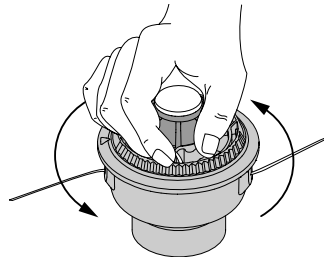

Fig. 19
8. Hold the outer spool. Wind the inner reel counterclockwise until approximately four (4) inches (102 mm) of line remain (Fig. 19).
9. If winding the line becomes difficult or if the line jams, pull the ends of the line from the spool (Fig. 19). Continue winding the inner reel counterclockwise until approximately 6 inches of line is left.